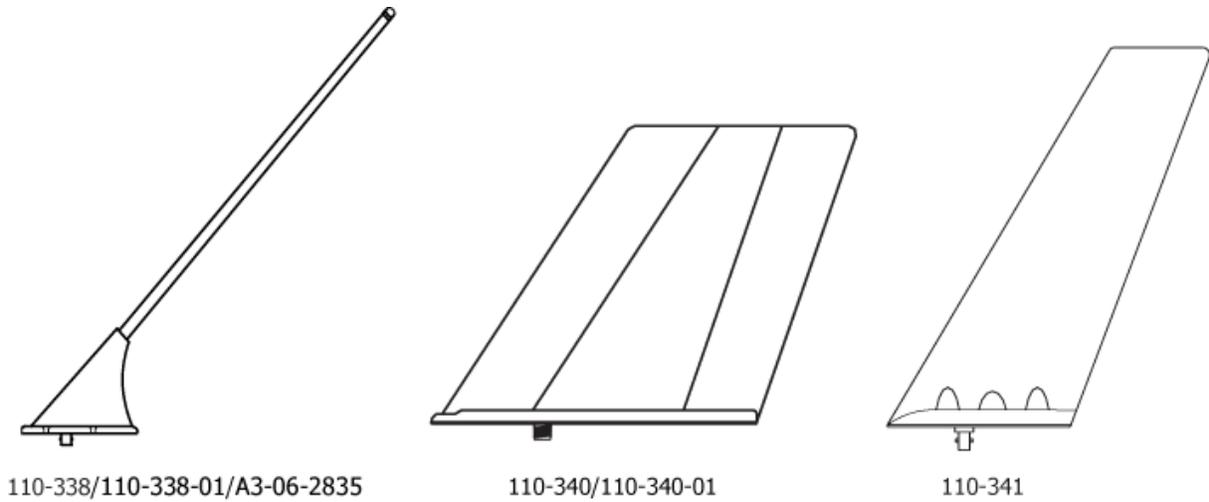

Figure 5 Antennas
- 5) There are six antennas that are used with the ARTEX ELT 4000. These are shown in Figure 5.